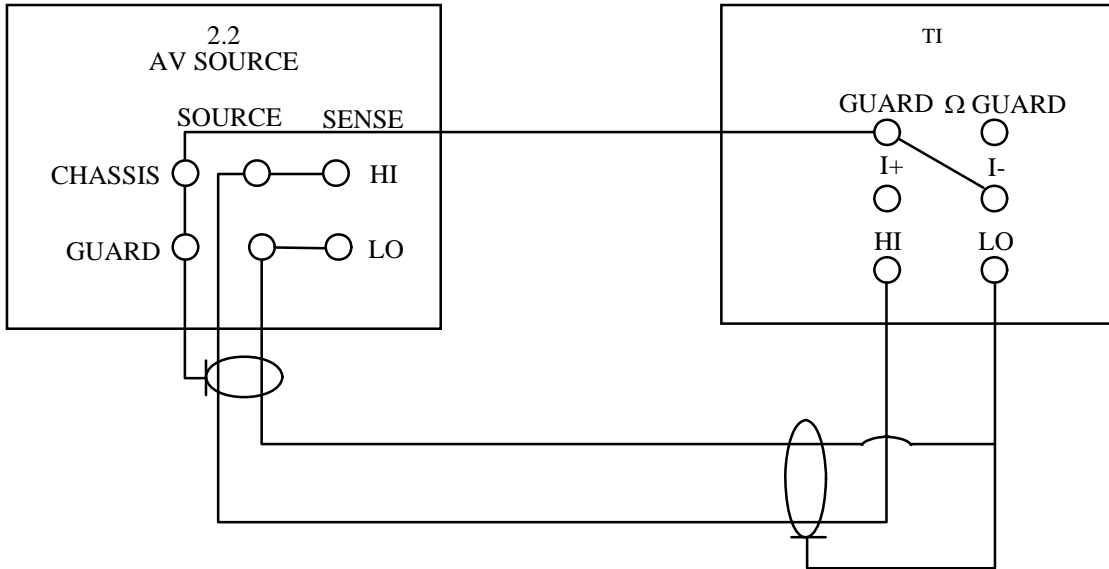

Figure 5. Measurement for 100 mV Range
4.2.1 Connect the equipment as outlined in Figure 5 (line power input from a common source).